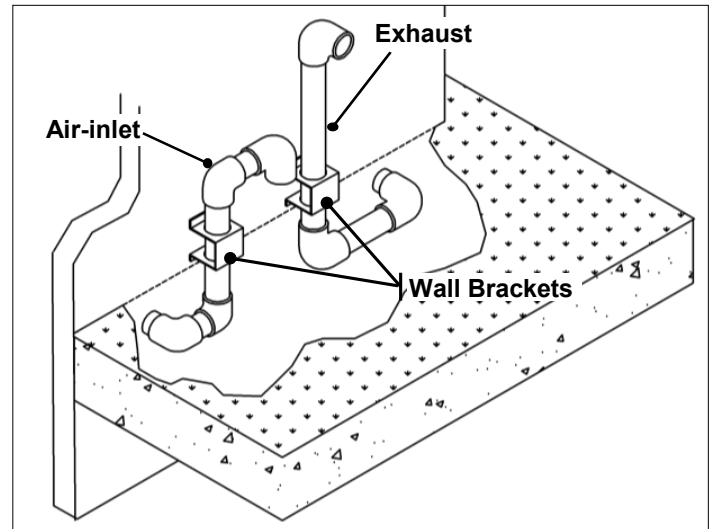

Figure 18 - Venting Below Grade
- Excavate the site to a point where the pipes are to exit as shown in Figure 18.